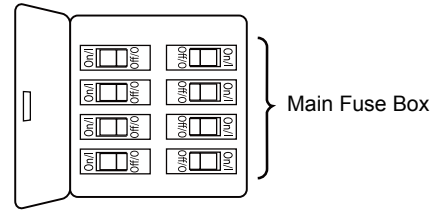
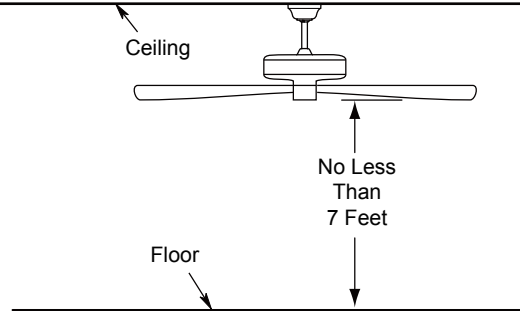
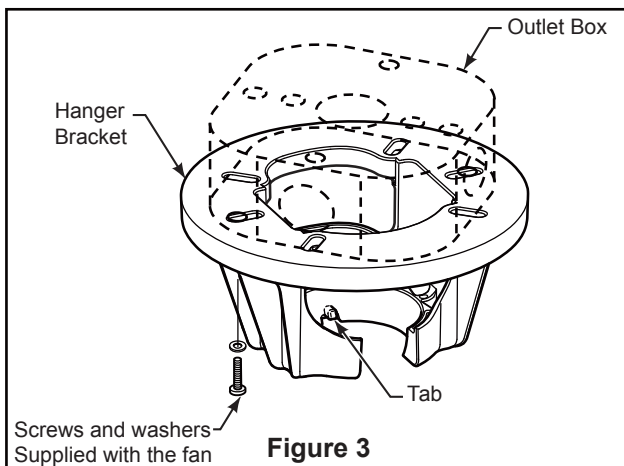
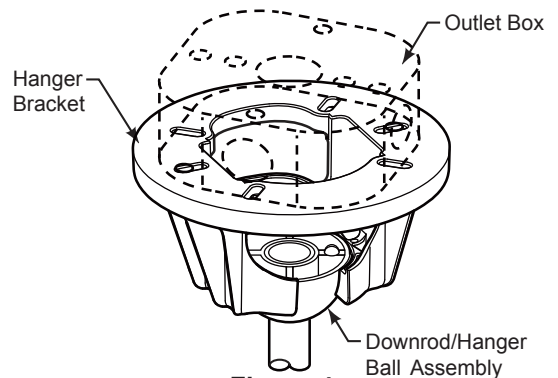

Figure 1
Figure 2
Figure 3
Figure 4
Your new ceiling fan will require a grounded electrical supply line of 120 volts AC, 60 HZ, 15 Amp Circuit. Electrical code requires use of a fan-rated outlet box to support the extra weight and motion associated with a ceiling fan. A fan-rated outlet box will be labeled as such and typically supports up to a 70lb ceiling fan. Fan-Rated Outlet Boxes vary in ratings and design. Ensure the ratings of your ceiling fan outlet box meet the requirements for the ceiling fan being installed. Figure 1, Figure 2 and Figure 3 depicts different structural configurations that may be used for mounting the outlet box.
Low profile outlet box (Figure 1)
Deep outlet box (Figure 2)
Deep outlet box with brace (Figure 3)
- 1. Remove the hanger ball portion from the downrod/hanger ball assembly by loosening the set screw in the hanger ball until the ball falls freely down the downrod. Remove the pin from the downrod, then remove the hanger ball. Retain the pin and hanger ball for reinstallation in Step 6. (Figure 1)
- 2. Remove the hairpin clip and clevis pin from the bottom of the downrod. Retain the pin and clip for reinstallation in Step 4. (Figure 2)
- 3. Loosen the two set screws and locking nuts in the downrod support of the motor assembly. Route the black, white and blue wires through the downrod. (Figure 3)
- 4. Slide downrod into the downrod support on top of the motor. Install the clevis pin by aligning the holes in the downrod support with holes in the downrod. Secure clevis pin with hairpin clip. Install and tighten the two set screws with nuts in the downrod support. (Figure 4)
To avoid possible fire or shock, be sure electricity is turned off at the main fuse box before hanging. (Figure 1)
The fan must be hung with at least 7' of clearance from floor to blades. (Figure 2)
1. Securely attach the hanger bracket to the outlet box using the #8-32 outlet box screws and washers supplied with the fan. (Figure 3)
NOTE: Outlet box screws pass through slotted holes of the hanger bracket. (Figure 3)
3. Carefully lift the fan and seat the downrod/hanger ball assembly on the hanger bracket that was just attached to the outlet box. (Figure 4) Be sure the groove in the ball is lined up with tab on the hanger bracket. (Figure 3)
To avoid possible electrical shock, be sure electricity is turned off at the main fuse box before wiring. (Figure 1)
Wiring Wall Control (Figure 2):
2. Make wiring connections with wire nuts as shown in Figure 2.
Installing Wall Control (Figure 3):
1. Assemble canopy by rotating key slot in canopy over shoulder screw in hanger bracket, taking care not to pinch the wires. Fully assemble and tighten second shoulder screw that was previously removed, then tighten another shoulder screw. (Figure 1)
2. Securely attach and tighten the canopy screw cover over the shoulder screws in the hanger bracket utilizing the key slot twist-lock feature. (Figure 2)
1. Secure the three blades using the 3/16"-24 truss head screws with spring washers/flat washers through the holes located on the bottom of the motor assembly. (Figure 1)
- 1. Remove the three screws in the support bracket at the bottom of the motor assembly and retain the screws for later. (Figure 1)
- 2. Assemble the lower housing assembly to the support bracket using the previously removed screws and securely tighten all three screws. (Figure 2)
- 3. Remove one of the three screws in the lower housing assembly. Retain the screw for later and slightly loosen the remaining two screws. (Figure 3)
- 4. Connect the 2 single pin connectors from the LED assembly to the 2 single pin connectors from motor assembly. (Figure 4)
1. Restore electrical power to the outlet box by turning the electricity on at the main fuse box. (Figure 1)
2. Wall Control Functions (Figure 2)
3. If airflow is desired in the opposite direction, turn the fan off and wait for the blades to stop turning. Then slide the reverse switch on top of motor assembly to the opposite position and turn fan on again. (Figure 3)